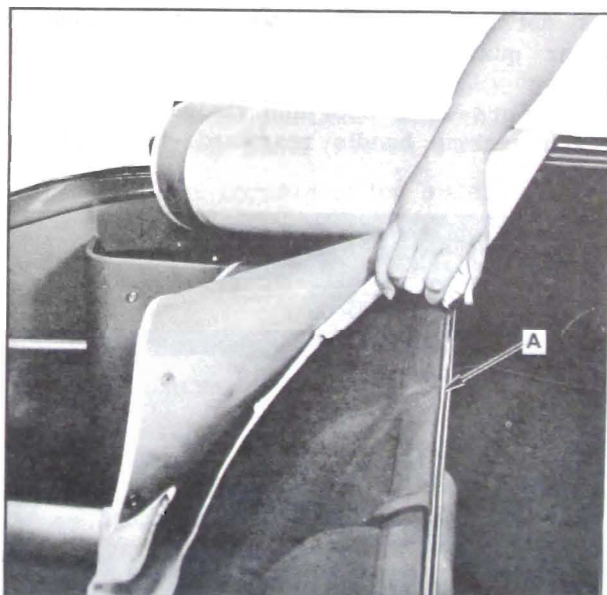

Figure 7-2—Slide Boot into Retainer
1. Slide front edge of boot into retainer "A" along seat back (Figure 7-2). Center boot for proper engagement of snap fasteners.